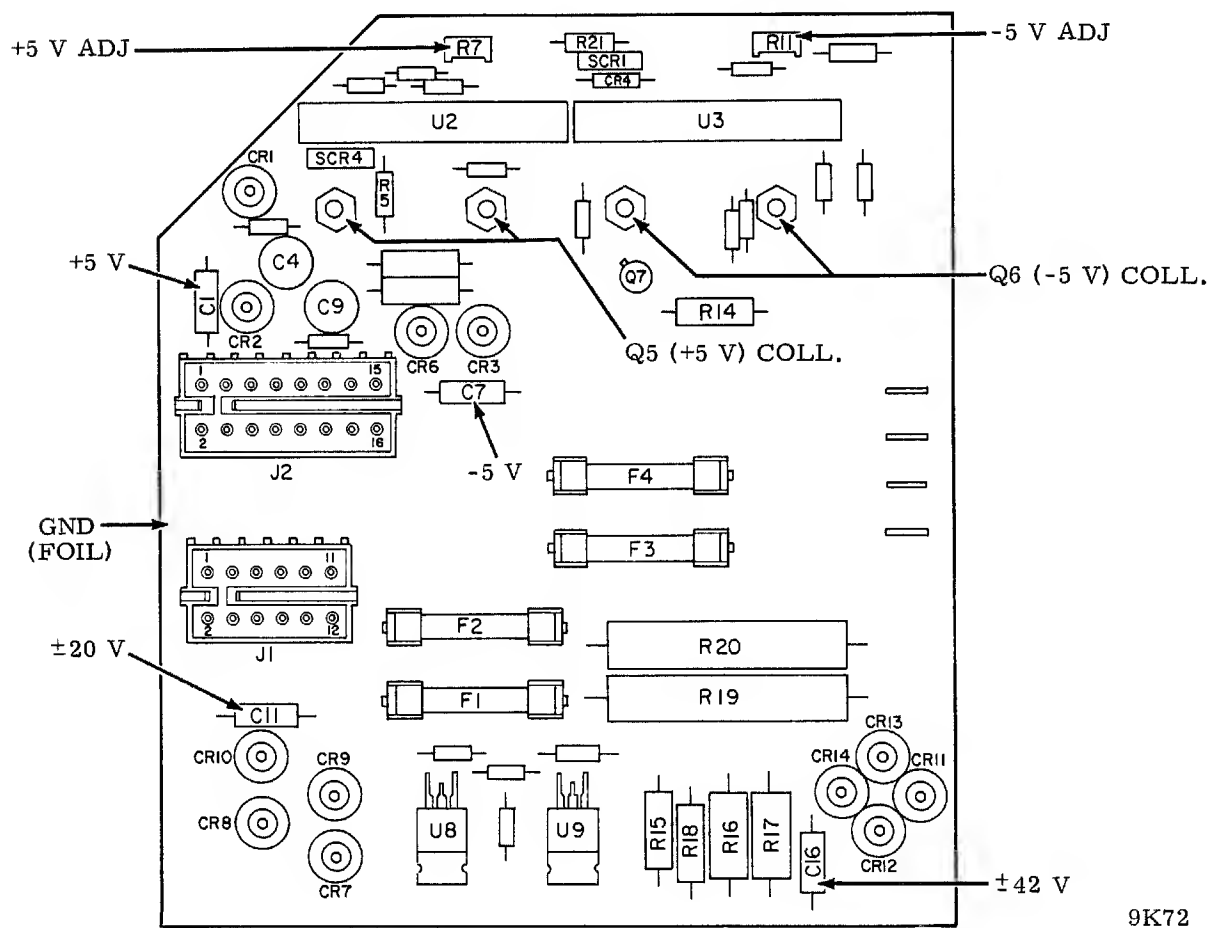

Figure A-1. AC-Input Probe Points on _XKV Board
The first five steps in the procedure, along with the resistance readings in table A-4, assure that the XKV board itself is not shorted. This ensures that the subsequent ac input readings will be valid indication of the transformer's performance. Table A-5 shows the oscilloscope connections for monitoring the ac input to each supply. Figure A-1 gives the location of those monitoring points on the XKV board. Figure A-2 shows the square-wave input (secondary-winding output) and the nominal ac voltages, the latter given more precisely in table A-5.
8. Connect the scope's ground probe to the ground-plane foil of the _XKV board (refer to figure A-1).
10. Connect the scope's + probe (i.e., CH1 or CH2, depending upon scope set-up) to either lead of the input filter capacitor listed in table A-5 for the voltage to be checked. (Refer to figure A-1 for capacitor locations.)